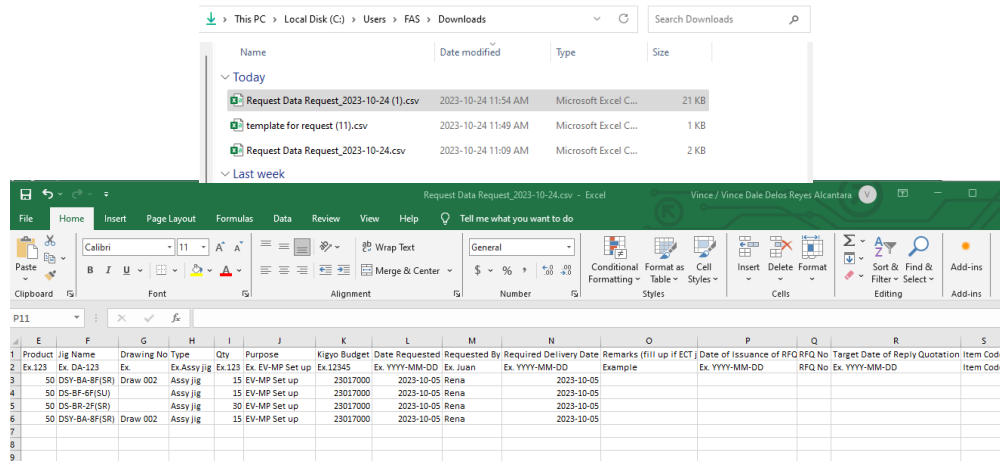

Figure 2.2
1. After export the file. You can view the data and fill-up the Initial RFQ missing data. (See Figure 2.2).